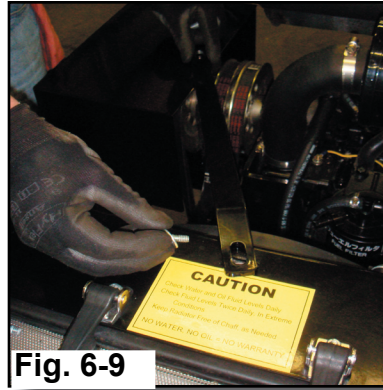

Fig. 6-9
11. Move the radiator support bracket to the middle hole of the radiator (only on the 72") and reattach strap to the pulley guard (Fig. 6-9).